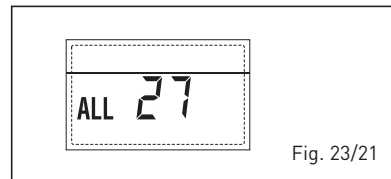

Fig. 23/21
**- COMPATIBILITY INPUT (S3) ERROR ONLY FOR SYSTEM 7 "ALL 28" (fig. 23/22)**